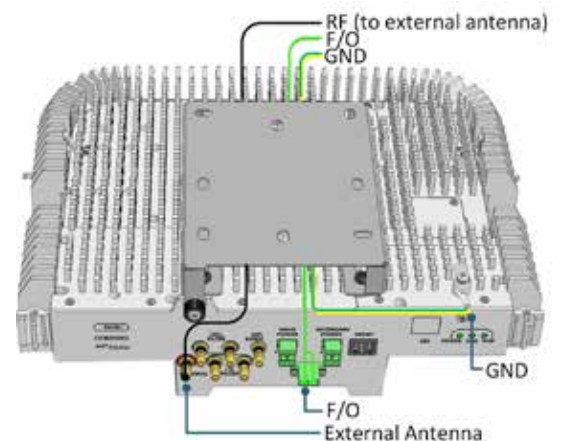

Figure 4. RAU5x Only —GND, F/O, and RF Cable Connections
- Step 2:** Connect the earth ground to the RAU5x 8-32 x 3/8 grounding screw (one-hole grounding lug required). See Figure 4 for example of RAU5x ground connection.
- Step 3:** Connect fiber optic pair to RAU5x module LC APC optic connector. See Figure 4.
\*RAU5x only (without preassembled Corning external antenna) — connect the RAU5x QMA “Ext. Ant.” connector to an external antenna via routed RF cable, as shown in Figure 4 .